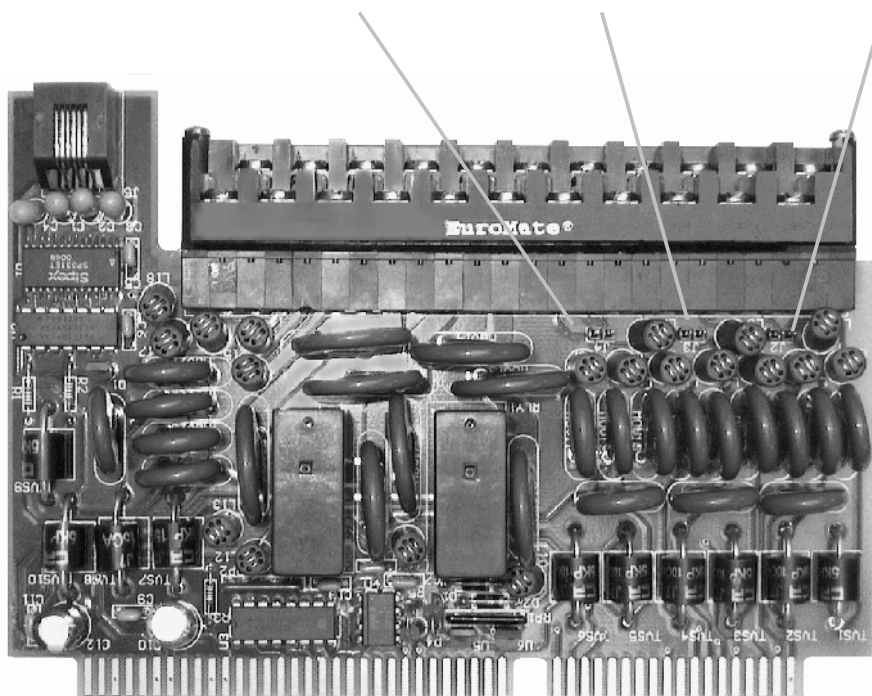

Figure 3C. 3 Wire RTD Jumper Locations (TC Model)
The I/O module has one (SC) , two (DC) or three (TC) jumpers that need to be set according to which RTD configuration is being used. See Figure 3C (DC & TC) or 3D (SC) above for the jumper's locations. If a three wire RTD is used the jumper must be installed across both header pins. If a 4 wire probe is being used the jumper must be removed, or can be installed on one pin of the header only. The default setting is 4-wire; 3-wire jumpers are provided in the hardware and spares kit in the event that 3-wire RTD's are used. Any mix of 3 and 4-wire RTD's may be connected as required, provided the appropriate jumpers are used.